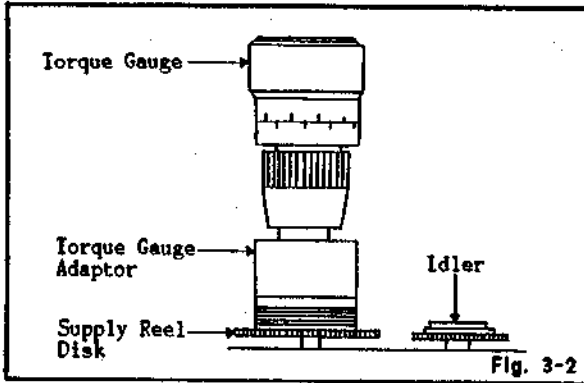

Fig. 3-2
2. Set torque gauge (J6002G) on supply reel disk, and place the unit in REWINDING mode. (Refer to Fig. 3-2)